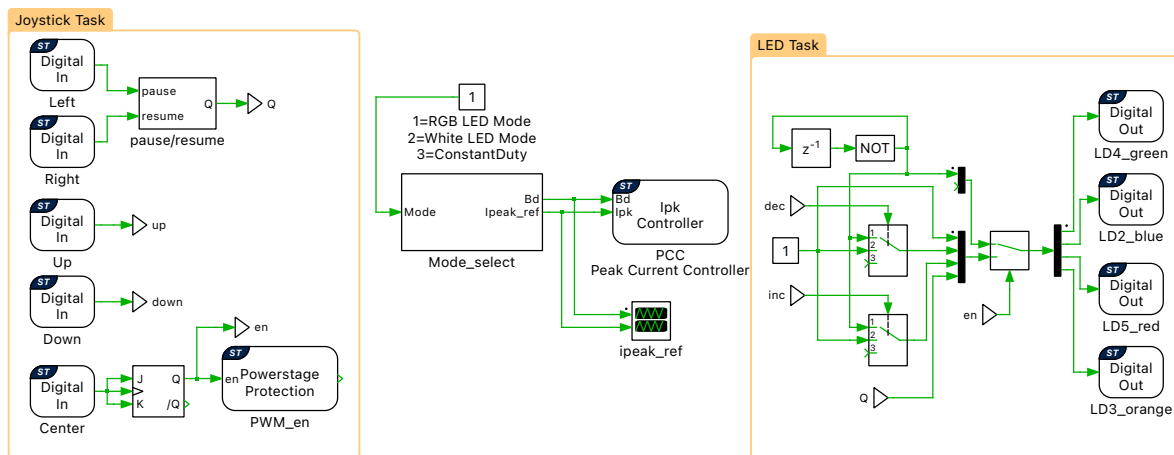
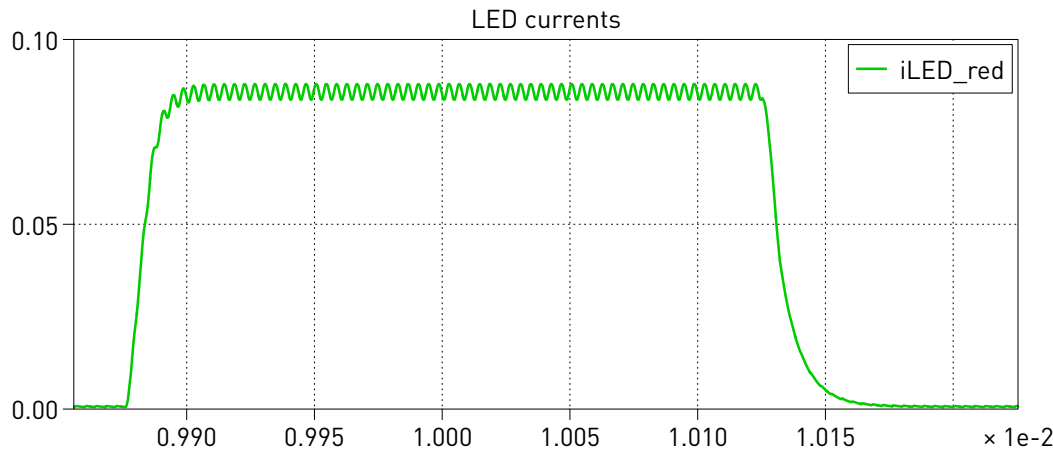

Figure 3: Controller subsystem
Figure 14: Current through the red LED with a constant Bd of 0.1
A detailed view of the “Controller” subsystem is shown in Fig. 3. The “Peak Current Controller” component is responsible for current regulation. The “Mode_select” subsystem allows the user to choose between different control modes for the RGB LED module. The B-G474E-DPOW1 Discovery kit’s joystick inputs are read as digital input signals that are used to start and stop mode cycling, set the global brightness level, and enable the PWM outputs. Four signal LEDs are used as indicators displaying the mode of operation.
Blocks in the PLECS schematic are assigned to lower priority tasks using the Task library component. In this model two lower priority tasks are defined in addition to the Base Task, as seen in Fig. 3. The table below lists the sample times of the lower priority tasks, with respect to the Base Task. The execution rate of the Base Task (f_c), in this case is 20 kHz.
Run the model as provided to observe the LED and inductor currents, as well as the PWM waveforms. If desired, the mode can be changed from the input labeled *Mode* of the subsystem labeled *Mode_select* in Fig. 3. The LED current waveform of the red LED, with a constant Bd of 0.1, is shown in Fig. 14. The offline model also allows the user to emulate pushing joystick buttons.
- 4** Then, return to the “Controller” schematic, and set the input labeled *Mode* to the subsystem labeled *Mode_select* in Fig. 3 to 2.